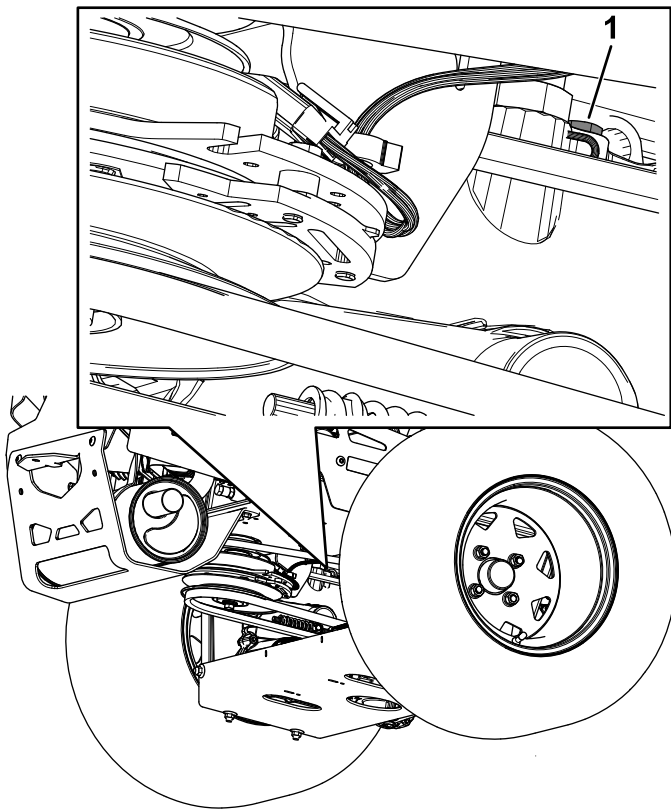

Figure 87
- **For ZT 5400 Hydros**, use a 7/16-inch wrench to access the vent plug from underneath the machine (Figure 87).